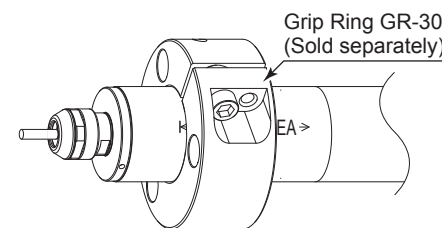

Fig. 15
* When installing a EM30 - S6000, using " Grip Ring GR - 30 (sold separately) " (Fig. 15) is recommended. If the Grip Ring GR - 30 (sold separately) cannot be used due to the restriction of dimension and space, and when installing a EM25 - S6000 / EM20 - S6000, install as shown in ② below.